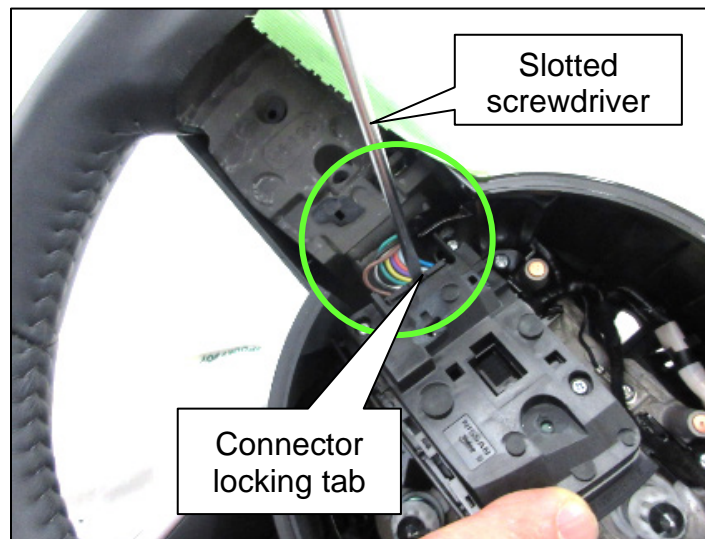

Figure 6
7. From the front side of the steering wheel, press the connector locking tab with the Slotted screwdriver to remove the switch connector, as shown in Figure 6.